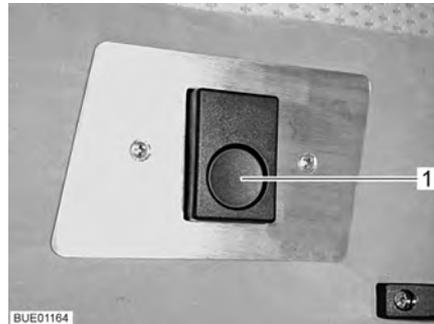

Fig. 75 Release
- Push the release knob (Fig. 75,1). The lock is released.